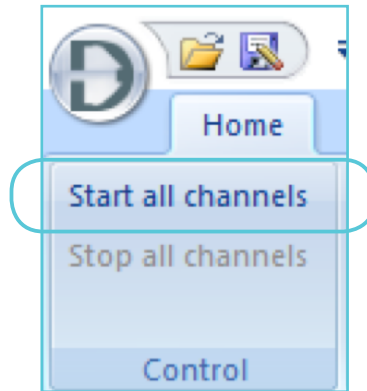

Figure 3.4.21
a) Start Channel manually: Use 'Start all channels' in the Control sub menu in the Home menu (figure 3.4.21).